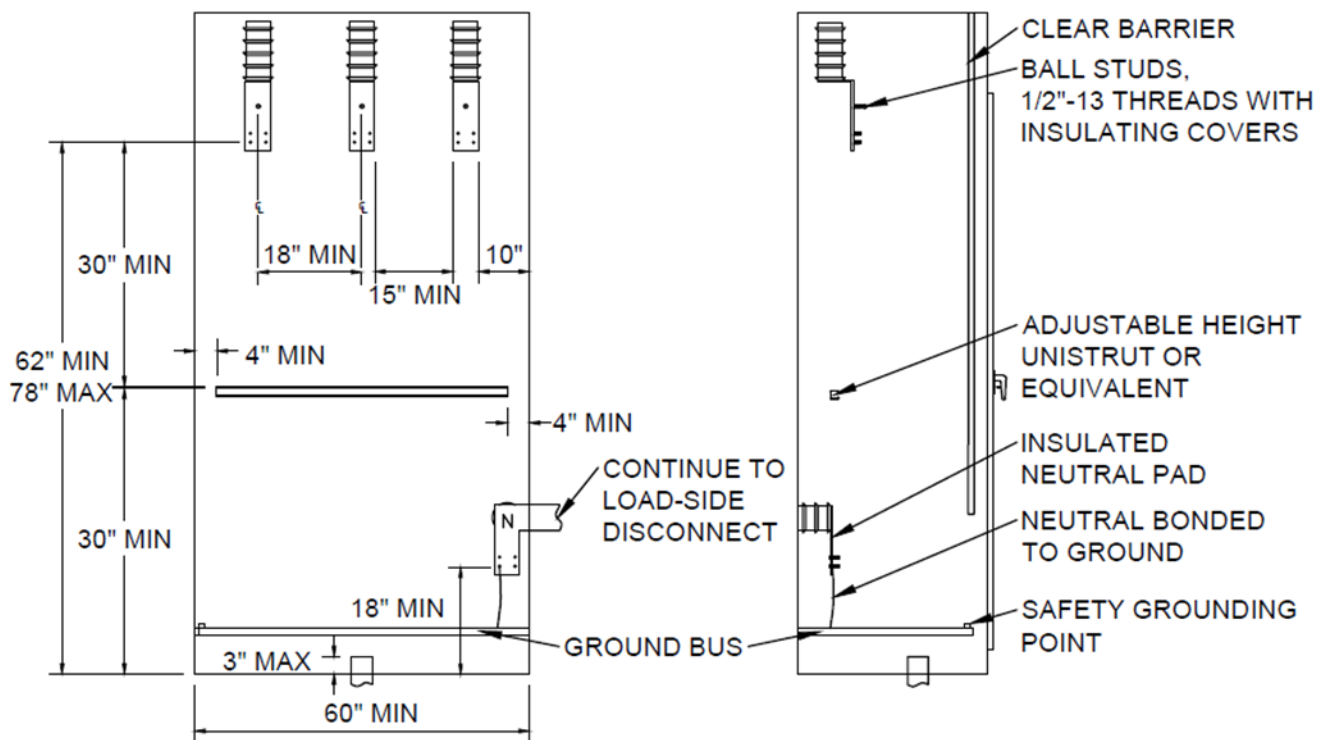

**Figure 10. Termination Compartment Clearances for 12.47 kV (STD-M-3301)**
- Between the termination lugs and the access door. This barrier must be hinged to allow unobstructed access to the terminations, as shown in Figure 10.
- A minimum 0.25-inch clear polycarbonate insulating barrier is required between the termination lugs and the access door. Polycarbonate (such as Lexan or Makrolon) is required to be electrically insulative, transparent, and meet applicable codes (NEC, UL). This barrier must be hinged to allow unobstructed access to the terminations as shown in Figure 10 and Figure 11.
For services up to 12.47 kV, the termination section must meet the requirements defined in EUSERC 418, as well as those shown in Figure 10 and the following: